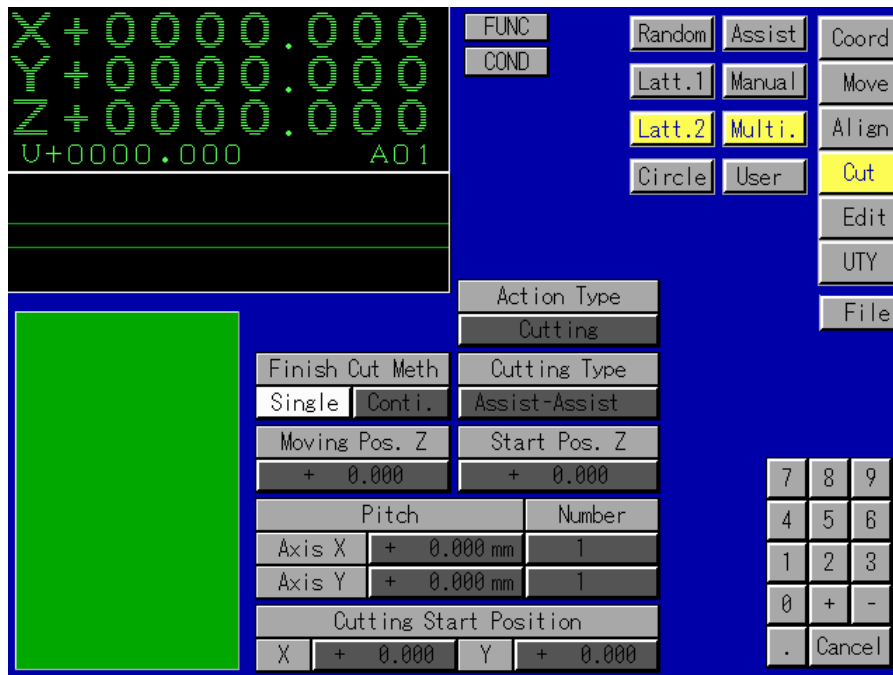

Fig.8.3.1.
This sub mode performs multiple cutting at the Lattice (2) position. Press the [Latt.2] button from the four types of cutting buttons of the [Multi.], the screen displays the Lattice 2 multiple cutting scene as Fig.8.3.1.